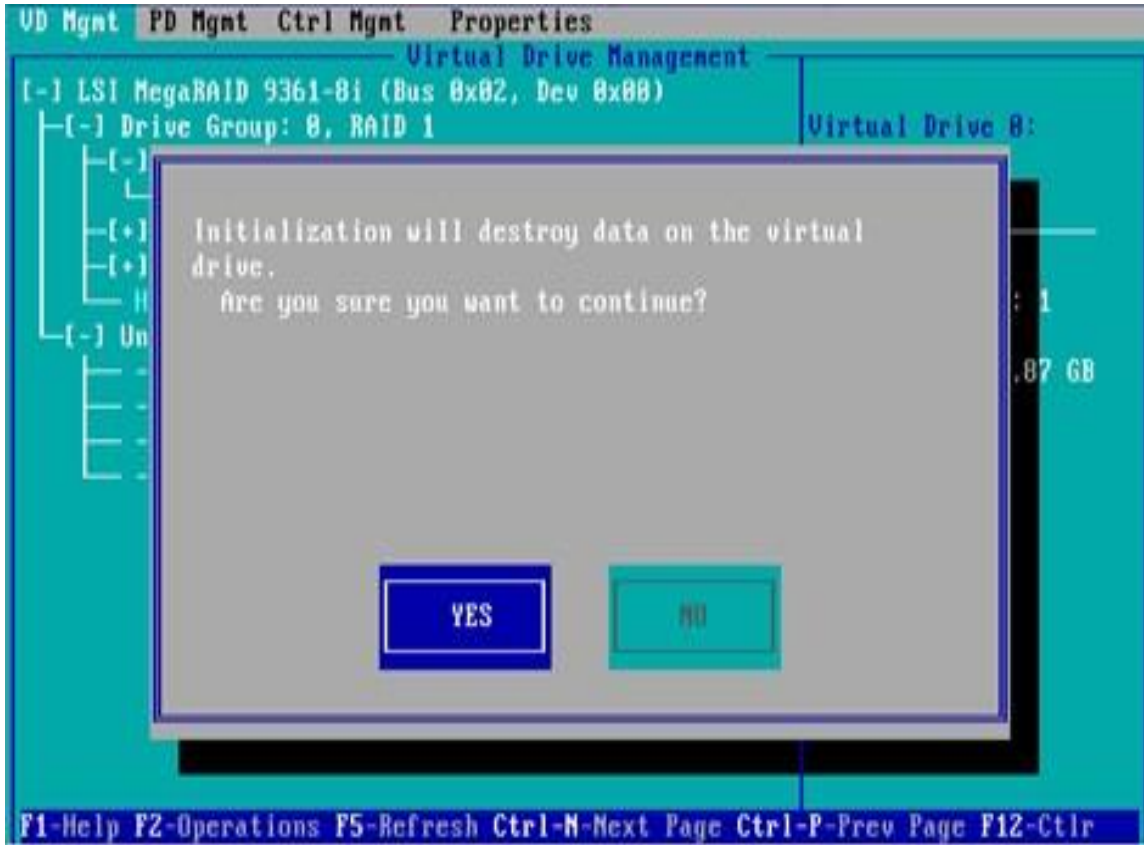

Figure 6-102
c) Enter the interface shown in figure 6-102, select Yes, and press enter to complete the initialization operation.